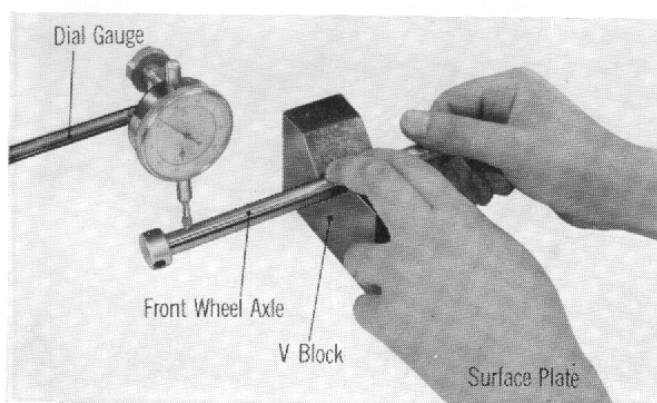

Fig. 87
- (3) Check the rear axle diameter for wear and bend in the same manner as the front axle shaft. (Fig. 87)